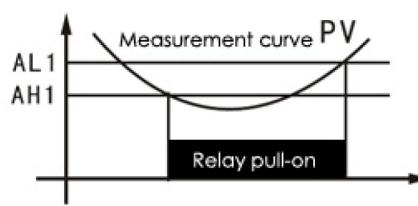

Figure 2
- (3) When setting AH1<AL1, if the measurement value is ≤AH1, the relay pulls on; when the measurement value is ≥AL1, the relay releases. See figure 2 for action of the relay and often used for lower limit alarm.
- (4) The pull-on value does not equal to the release value. The area between them forms the no-action area of the trip. The no-action area of the trip usually consists 3~5 characters.